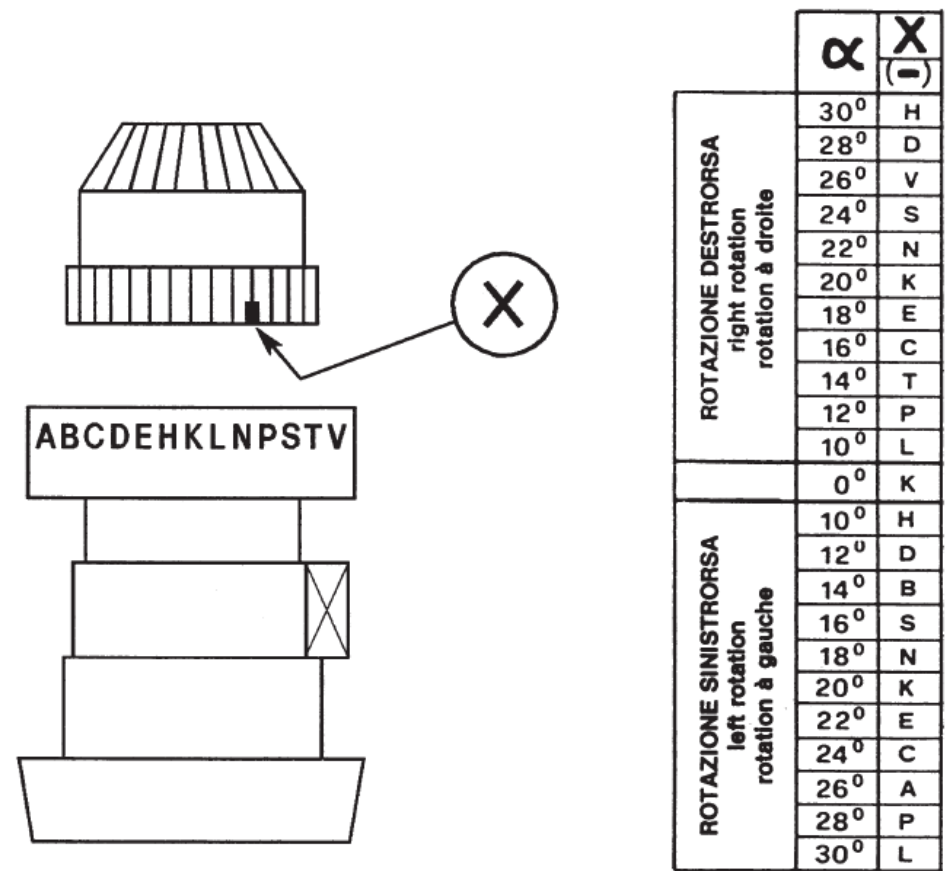

Fig. 3
C) | Introducir el engranaje central [6] en el interior del casquillo [1] teniendo especial cuidado de alinear la marca denominada "X", posicionada sobre el engranaje en la letra correspondiente al ángulo deseado. (Fig.3). *Insert the central cone gear [6] in its seat in the hub [1] making sure to align the little cut named "X", located on the bottom of the central cone gear, with the letter corresponding to the angle chosen (Fig. 3)*